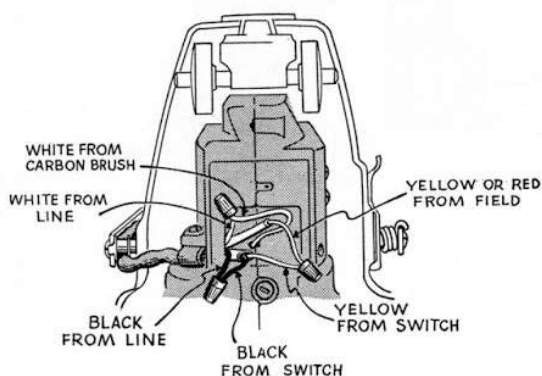

Fig. 8
1. Connect wiring as illustrated in Fig. 8.